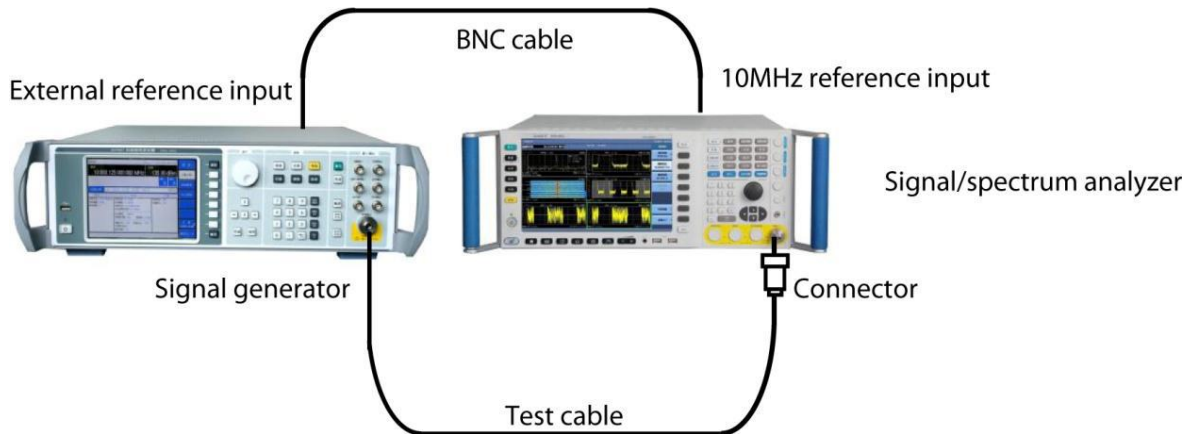

Fig. 4.39 Connection of measurement system for amplitude correction
**Step 1. Connect a signal generator ranging from 1GHz to 3GHz to the Series Signal Analyzer by the cables and connector as shown in Fig. 4.39.**